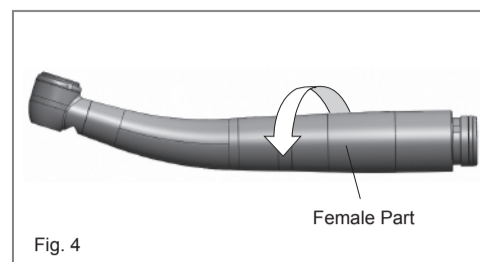
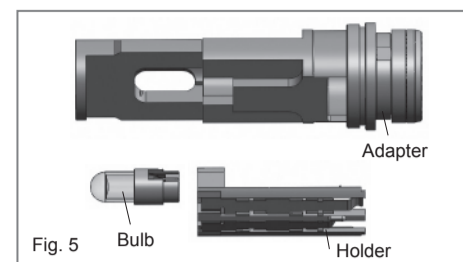

Fig. 4
Fig. 5
1. Loose and remove the female part (Fig. 4). Pull out the adapter and holder (Fig. 5). Then pull the bulb out of the holder, and insert a new one. Place the holder into the adapter and then return it to the female part. Finally, tighten the female part.